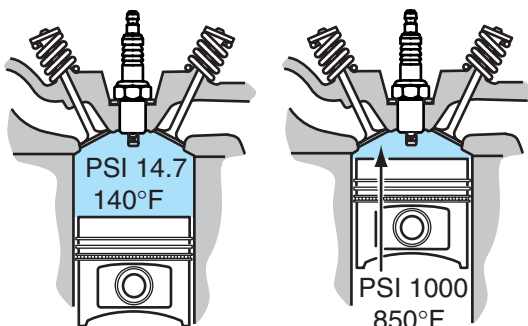
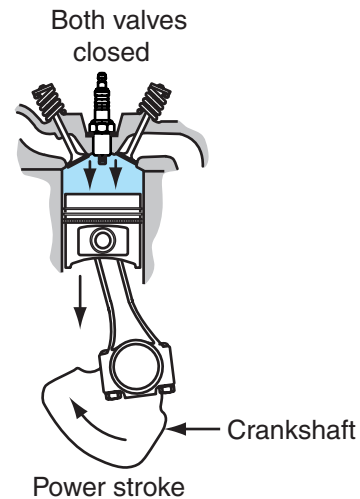

FIGURE 1.9 The air-fuel mixture heats up as it is compressed.
FIGURE 1.10 The air-fuel mixture ignites, pushing the piston down.
- **Power Stroke.** As the piston approaches TDC on its compression stroke, the compressed air-fuel mixture becomes very explosive (**Figure 1.9**). When the ignition system generates a spark at the spark plug, the fuel ignites. The air-fuel mixture burns, but it must not explode. As the mixture burns it expands, forcing the piston to move down in the cylinder until it reaches BDC (**Figure 1.10**). The action of the piston turns the crankshaft to power the car. The power stroke is sometimes called the expansion stroke.